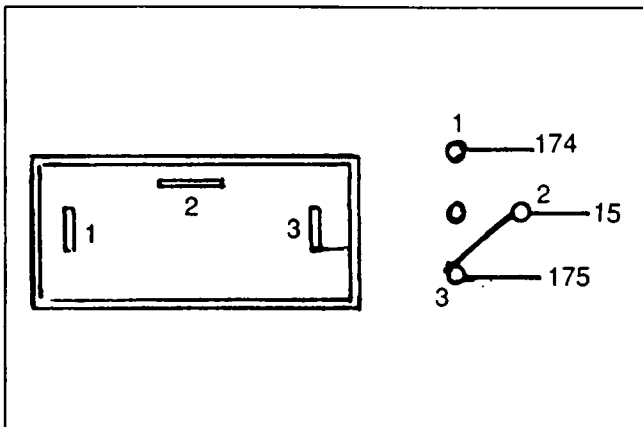

Figure 2. Auto-Manual-Off Switch Terminals
1. Disconnect wires from switch terminals (Figure 2) to prevent interaction.